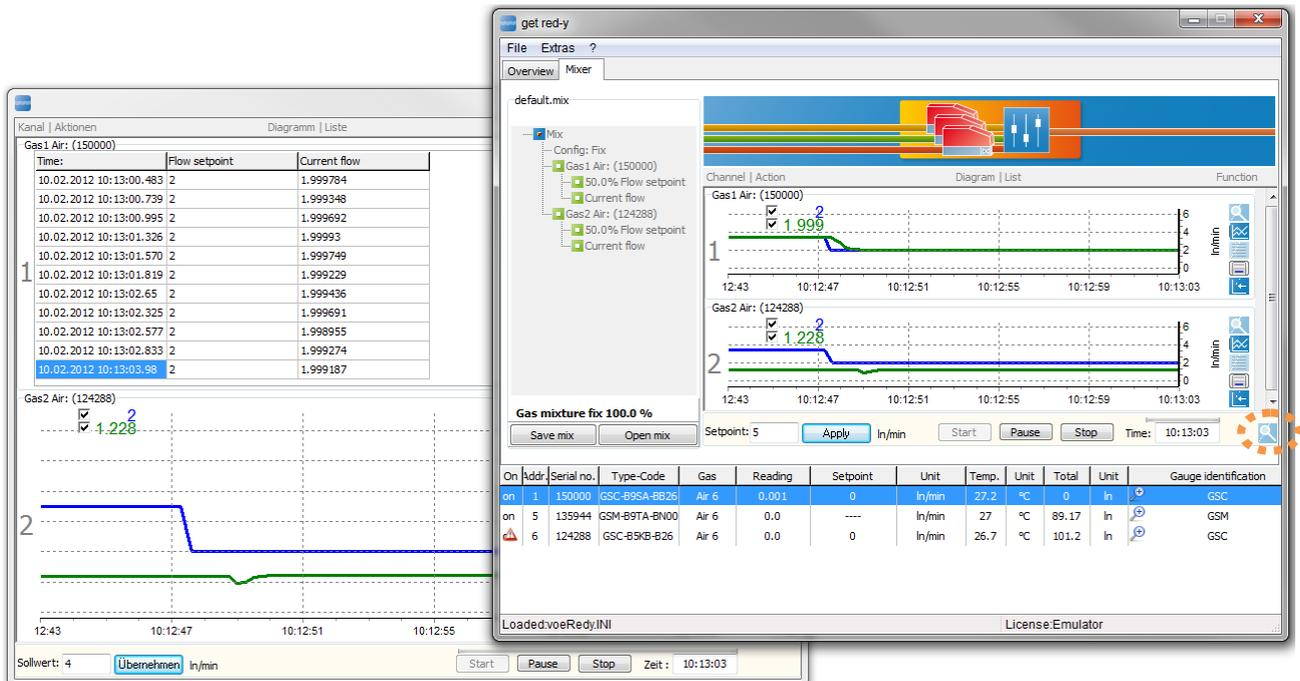

Figure 50: Show the fix mode regulation in several data views.
- All Charts in one window:** All gases can be visualized in one window. This window can also be viewed on a different monitor. This option is shown in Figure 50. A tabular and graphical representation can be displayed simultaneously for the same channel.